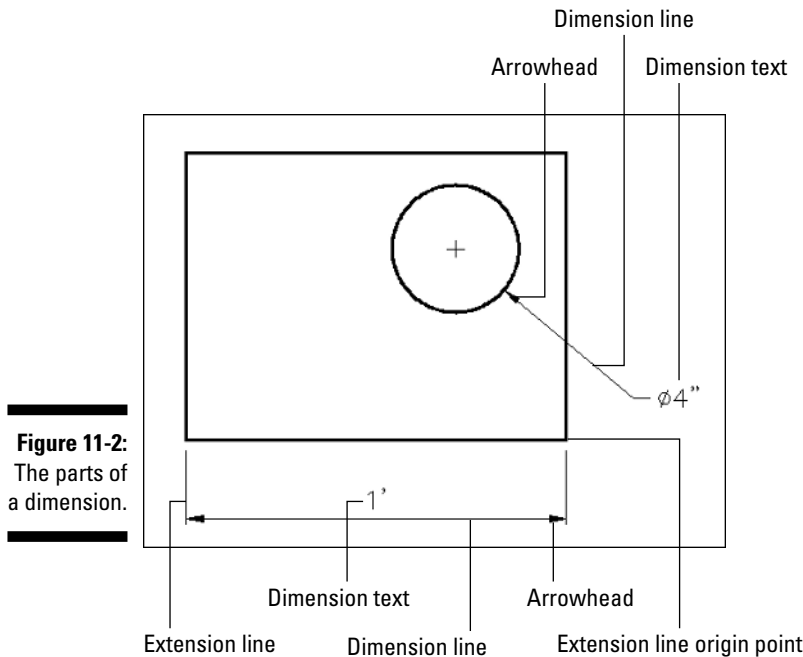
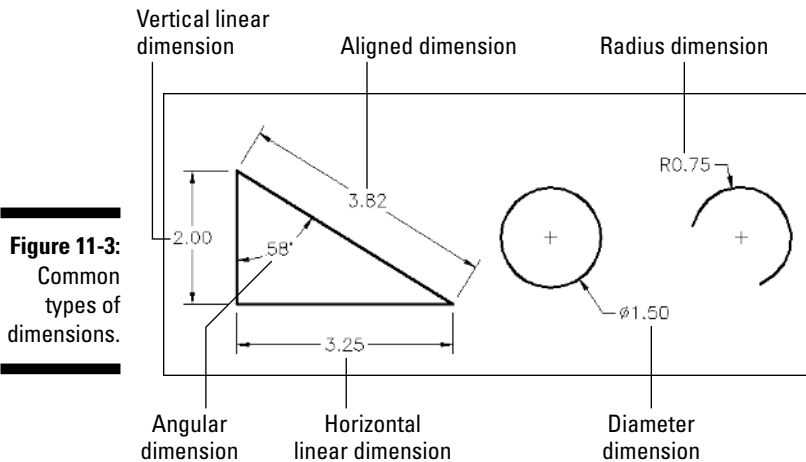

Figure 11-2:
Figure 11-3:
AutoCAD uses the names shown in Figure 11-2 and described in the following list to refer to the parts of each dimension:
- ✓ **Dimension lines:** In dimensions that indicate length or distance, the dimension lines go from the dimension text outward, either horizontally, vertically, or parallel to the object being measured, to indicate the extent of the dimensioned distance. (For other dimension types — for example, the ones shown in Figure 11-3 — the dimension line simply points at the object being dimensioned.) AutoCAD's default dimension style settings center the dimension text vertically and horizontally on the dimension lines (see Figure 11-2), but you can change those settings to cause the text to appear in a different location — riding above an unbroken dimension line as shown in Figure 11-1, for example. See the section “Adjusting style settings,” later in this chapter, for instructions.
- ✓ **Dimension arrowheads:** The dimension arrowheads appear at the ends of the dimension lines and clarify the extent of the dimensioned length. AutoCAD's default arrowhead style is the closed, filled type shown in Figure 11-2, but you can choose other symbols, such as tick marks, to indicate the ends of the dimension lines. (Don't get ticked off, but AutoCAD calls the line ending an *arrowhead* even when, as in the case of a tick mark, it doesn't look like an arrow.)
AutoCAD provides several types of dimensions and commands for drawing them. Figure 11-3 shows the most common types, and the following list describes them:
- ✓ **Radial dimensions:** A *radius* dimension calls out the radius of a circle or arc, and a *diameter* dimension calls out the diameter of a circle or arc. You can position the dimension text inside or outside the curve, as shown in Figure 11-3. If you position the text outside the curve, AutoCAD (by default) draws a little cross at the center of the circle or arc.